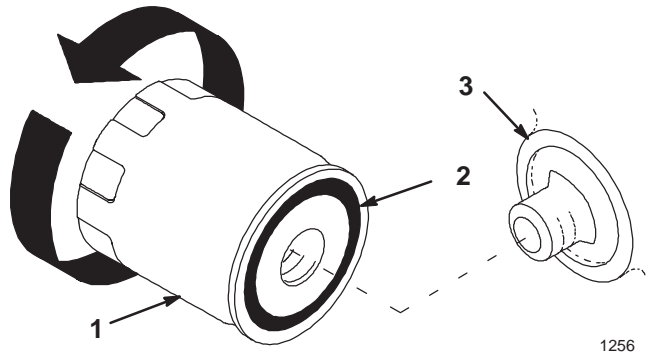

Figure 29
2. Remove the old filter (Fig. 29).
3. Wipe the filter adapter gasket surface (Fig. 29).
4. Apply a thin coat of new oil to the rubber gasket on the replacement filter (Fig. 29).
5. Install the replacement oil filter to the filter adapter. Turn the oil filter clockwise until the rubber gasket contacts the filter adapter, then tighten the filter an additional 1/2 turn (Fig. 29).